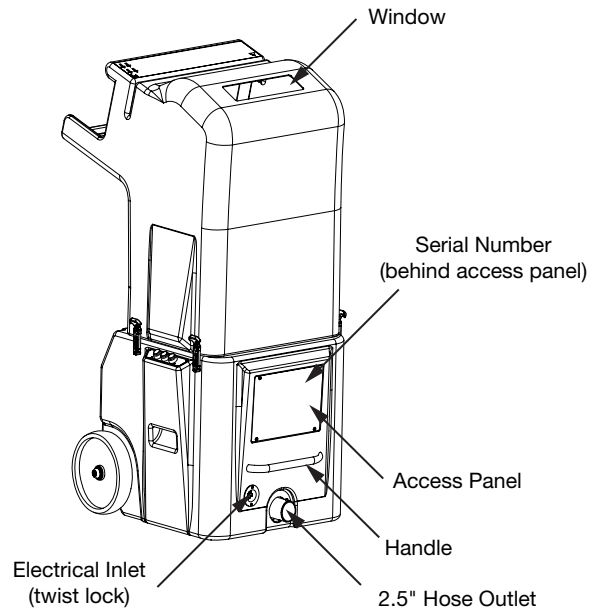

Fig. 2
- **Electrical Inlet (Fig 2)** Located in the base of the machine and where the power cord is to be plugged in. Always plug this machine into 115 volt circuit rated at 15 amperes. Use only the supplied power cord.
- **2.5" Hose Outlet (Fig 2)** Located in the base and where the insulation hose is to be attached using the quick connect feature.
- **Access Panel (Fig 2)** This is located in the base and is an access cover for the following; 2.5" outlet interconnect, agitator bearings, electrical connections and serial number.